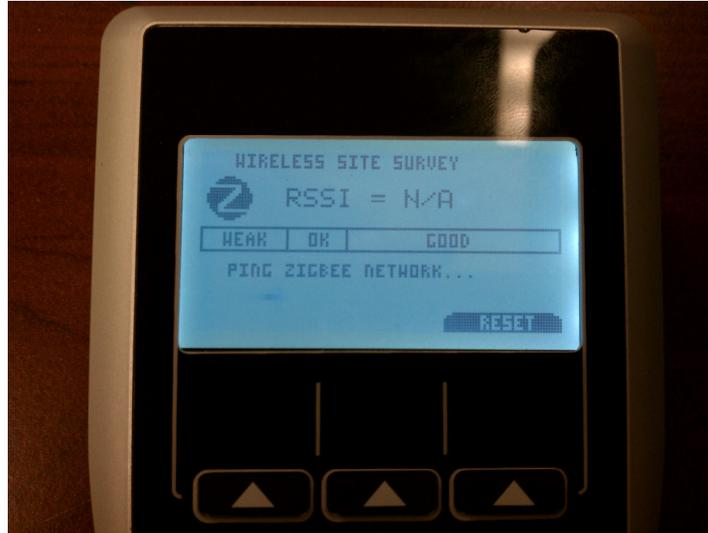

Figure 11 6 Scanning for Zigbee Network
D. The unit will then attempt to ping a hub in site survey mode, see Figure 11.